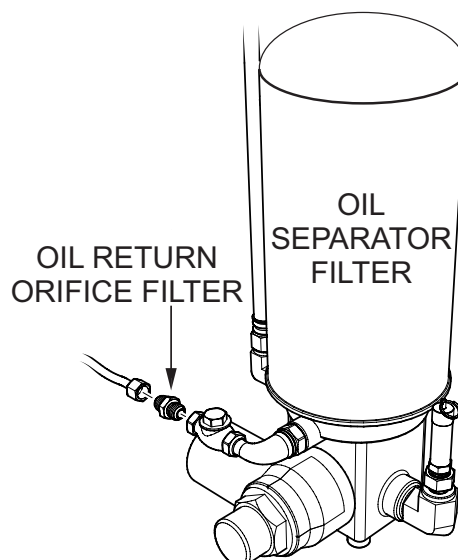

Figure 63. Oil Return Orifice Filter
1. Remove the oil return filter orifice as shown in Figure 63.